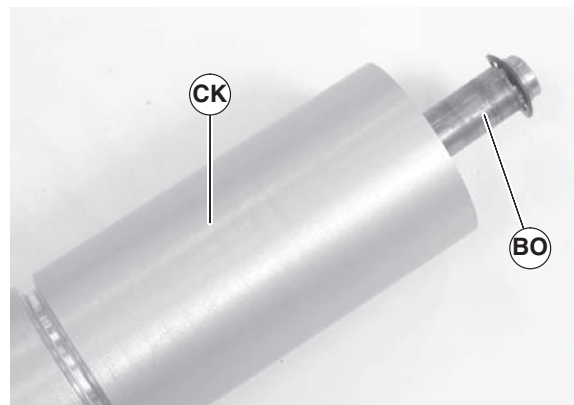

Figure 78
- Slide the shaft assembly (Figure 78, item BO) out of the pulley (CK).